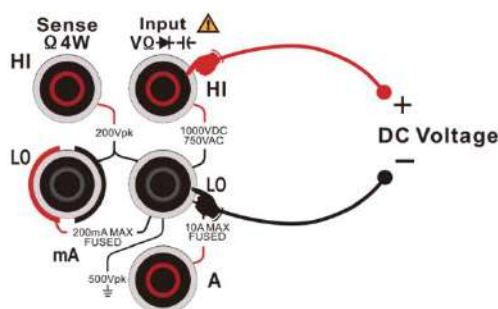

Figure 2-5 Connection of DC voltage measurement
- 2) Connect test leads to the measured voltage as Figure 2-5, red test lead should be connected to terminal HI, and the black one to terminal LO.